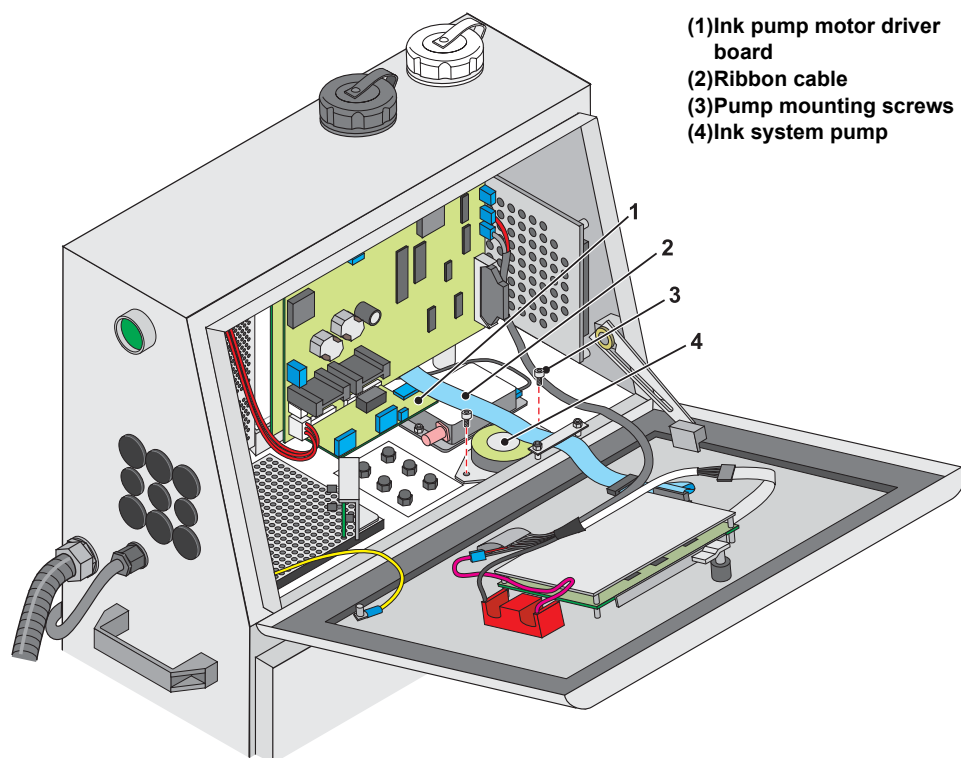

Figure 8-13. Ink System Pump Removal, part 2
- 6 Disconnect the PUMP connector from the I/O board. It is on the bottom edge of the board, below the ink pump motor driver board (Item 1 in Figure 8-13).
- Hint: follow the wires coming out of the pump (4).*
- 8 Remove and retain the two screws (3) securing the pump.
- 9 Gently move the ribbon cable (2) to the right and out of the way.